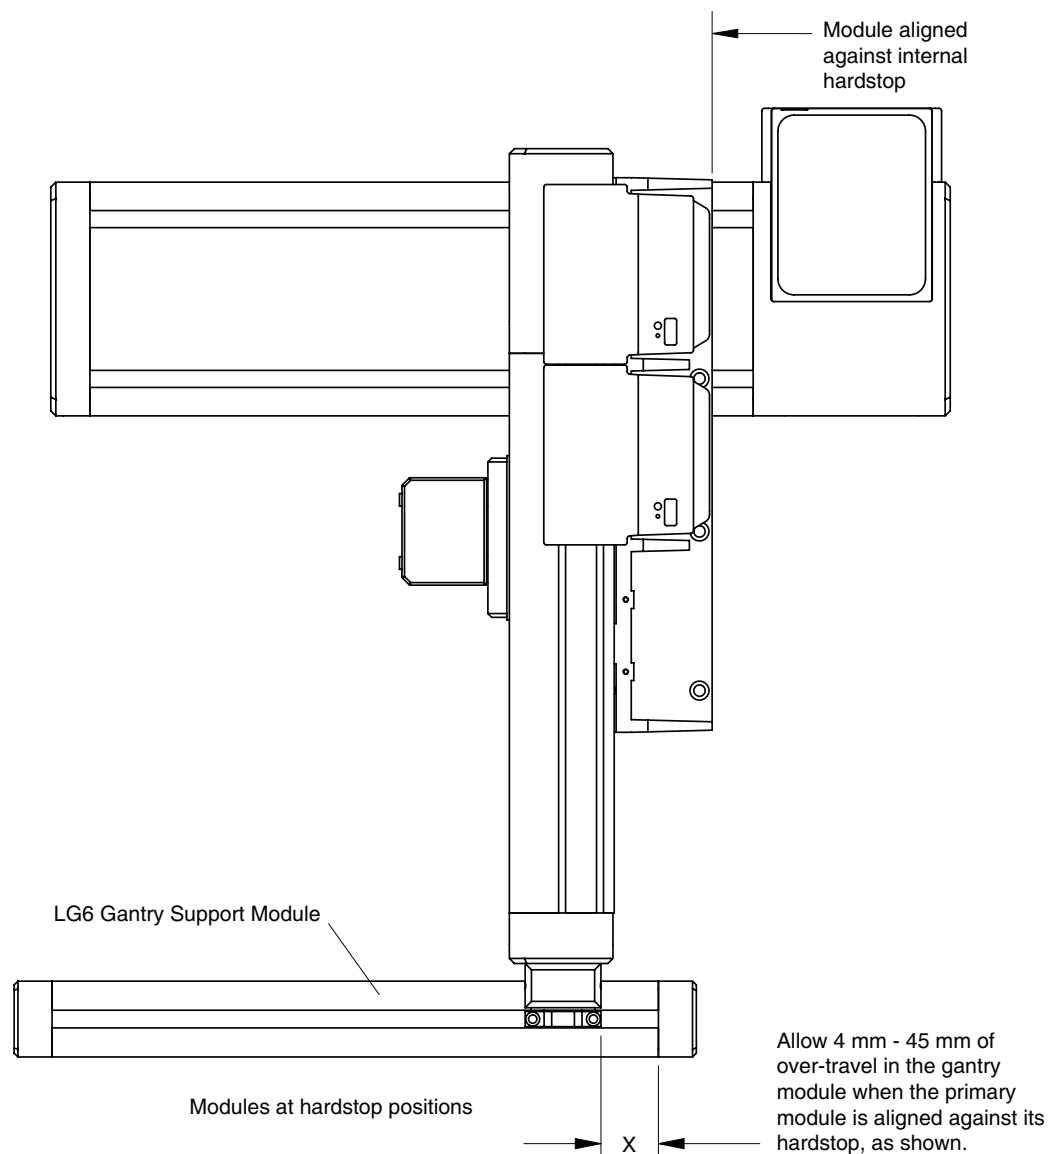

**Figure 5-45. Gantry Installation: Lip Seal to Support Bracket Gap Dimensions**
**NOTE:** The life of the LG6 gantry support module and the gantry support assembly may be reduced if the parallelism specification (see Figure 5-44) or nominal gap tolerances (see Figure 5-45) are exceeded. You must measure the gap throughout the entire X-axis stroke to verify compliance.